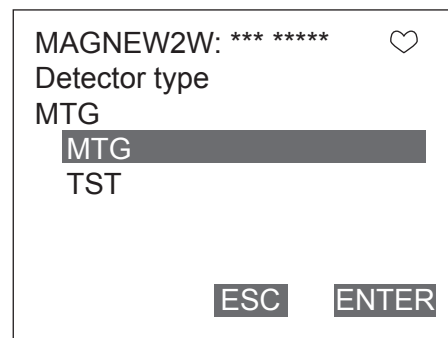

Fig. 7-20.
2. Once the display as shown in Fig. 7-20. appears, move the arrow key up or down to select a detector type. After making a selection, press F4 (ENTER). If F3 (ESC) is pressed here, the selection will be canceled and the display will return to the Detector config menu.